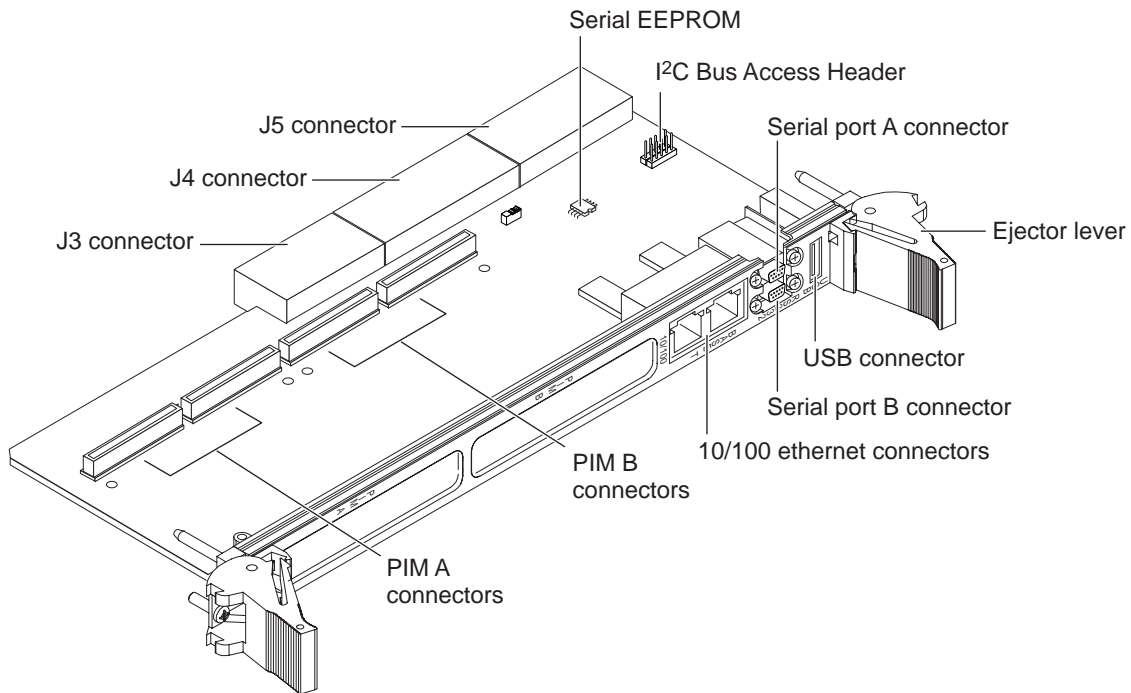

Figure 5-2 XCP2060-TRN Transition Card with Location of On-Board Components
- XCP2060-TRN IO Transition Card—shown in *Figure 5-2*; this assembly is compatible with the Netra CP2060 or CP2080 host boards (see the *Bibliography* for references to the XCP2060-TRN I/O transition card manual).
Possible boot and console configurations are described in *Table 5-2*. Sun Microsystems provides the host boards and a compatible XCP2060-TRN Transition Card (see *Figure 5-2* and the XCP2060-TRN I/O Transition Card Manual referenced in *Bibliography*) for Netra CP2060/CP2080 boards. This transition card brings out 10/100 Ethernet RJ45 ports from the host which can be used to accomplish network boot as a diskless client. The other configurations require IHV hardware.